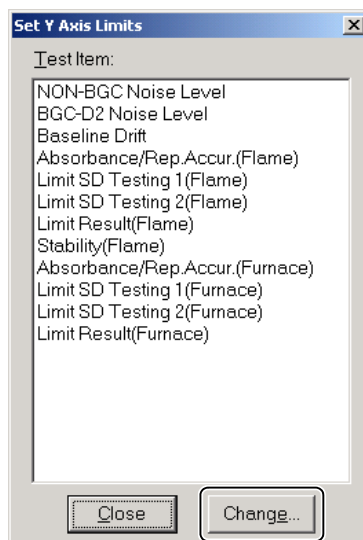

Fig. 7.19 Set Y Axis Limits
- (1) Select [Graph]-[Set Y-Axis in Each Test], then the dialog box "Set Y Axis Limits" as shown in Fig. 7.19 opens.
- (2) Double-click on the test item to be changed with mouse or move the cursor to click on the [Change].